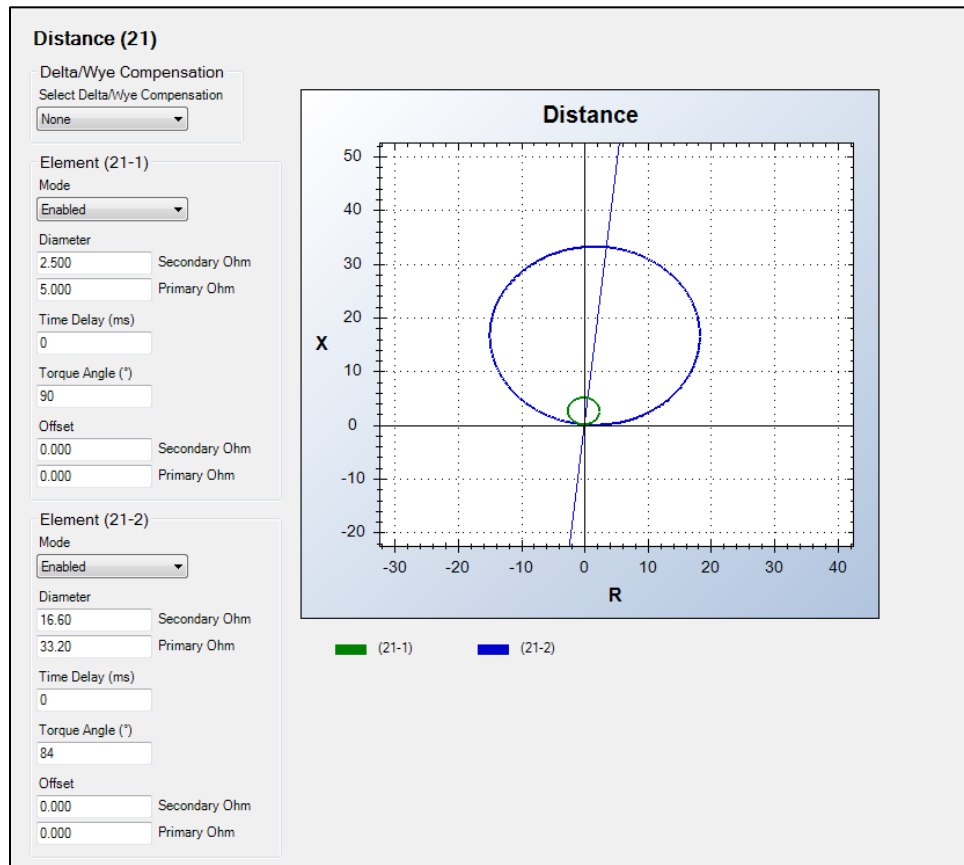

Figure 20-2. Distance Settings Screen
Distance element operational settings are configured on the Distance (21) settings screen (Figure 20-2) in *BESTCOMSPPlus*.